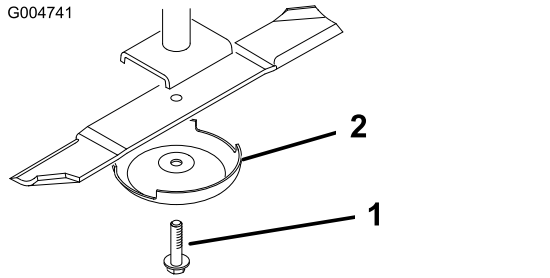

Figure 110
- Grasp the end of the blade using a rag or thickly padded glove. Remove the blade bolt, anti-scalp cup, and blade from the spindle shaft (Figure 110).